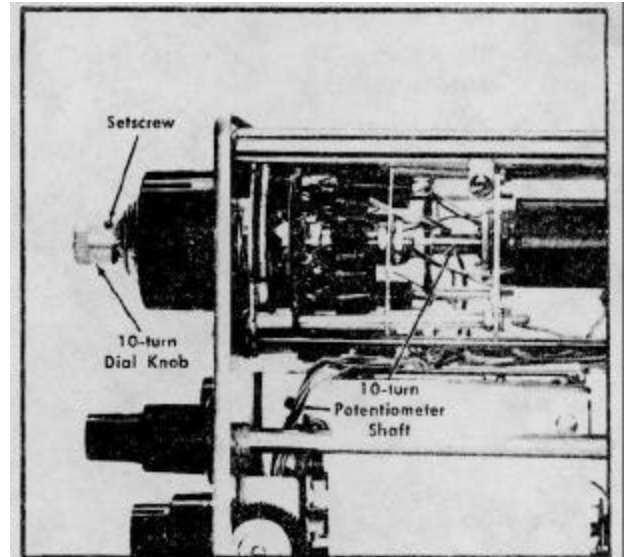
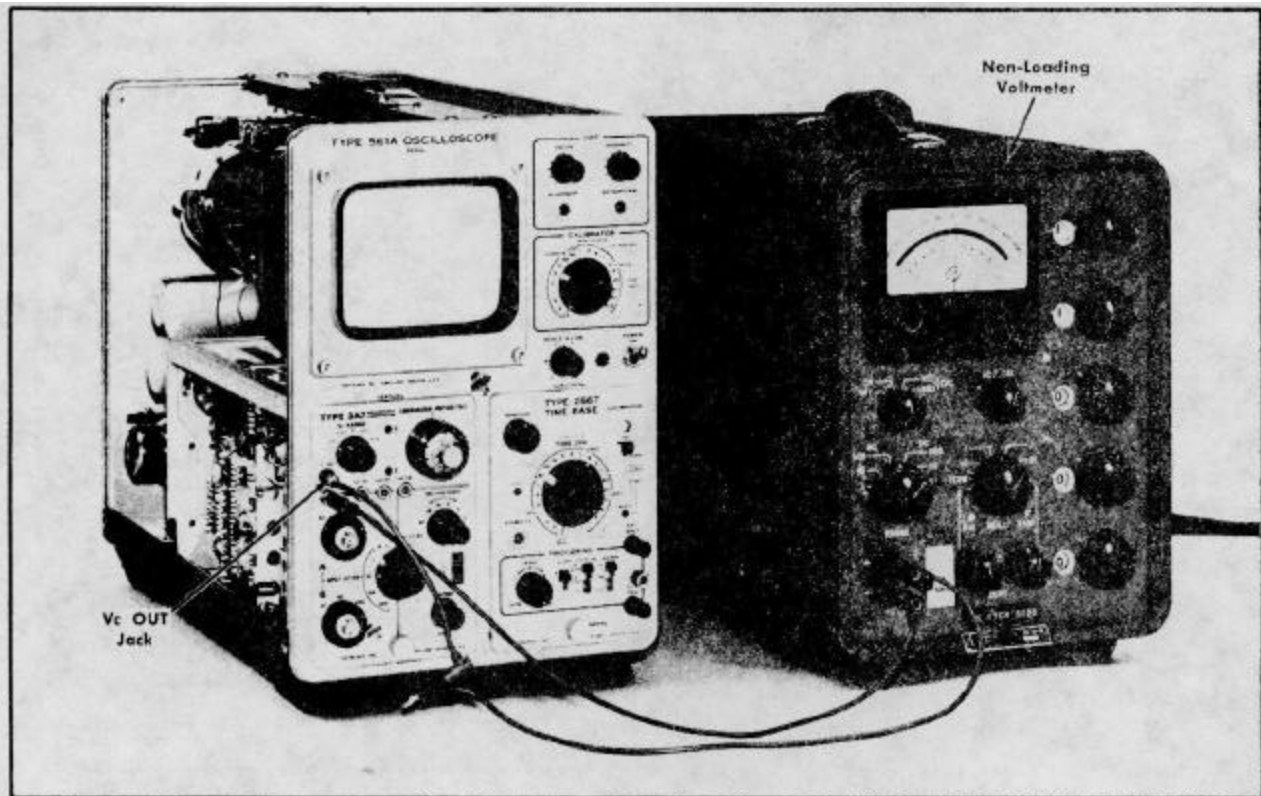
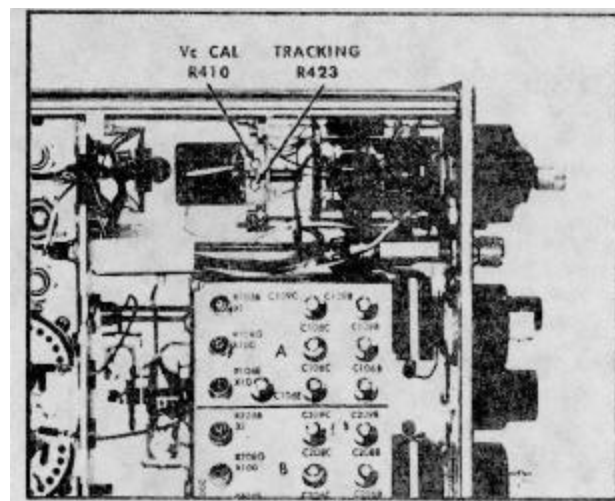

Fig. 5-11. Zero volts mechanical calibration, step 8.
Fig. 5-12. Setup at completion of step 9c.
Fig. 5-13. Location of adjustments for step 9 and 10.
b. With the COMPARISON VOLTAGE 10-turn dial set at its most counterclockwise position, check that the 10-turn dial reads 0-0. If it does not, loosen the setscrew (see Fig. 5-11) in the 10-turn dial knob and set the dial for the proper zero reading without turning the potentiometer shaft.
9. Adjust Vc CAL R410 ❶
b. Set the non-loading voltmeter (item 8) to +11 volts.
c. Connect the voltmeter between the Vc OUT jack and ground. Fig. 5-12 shows the setup.
d. Adjust the Vc CAL control R410 (see Fig. 5-13) for a null reading on the meter.
10. Adjust TRACKING R423 ❷
c. Reconnect the voltmeter between the Vc OUT jack and ground. (This setup is similar to the one shown in Fig. 5-12.)
d. Adjust the TRACKING control R423 (see Fig. 5-13) for a null reading on the meter.